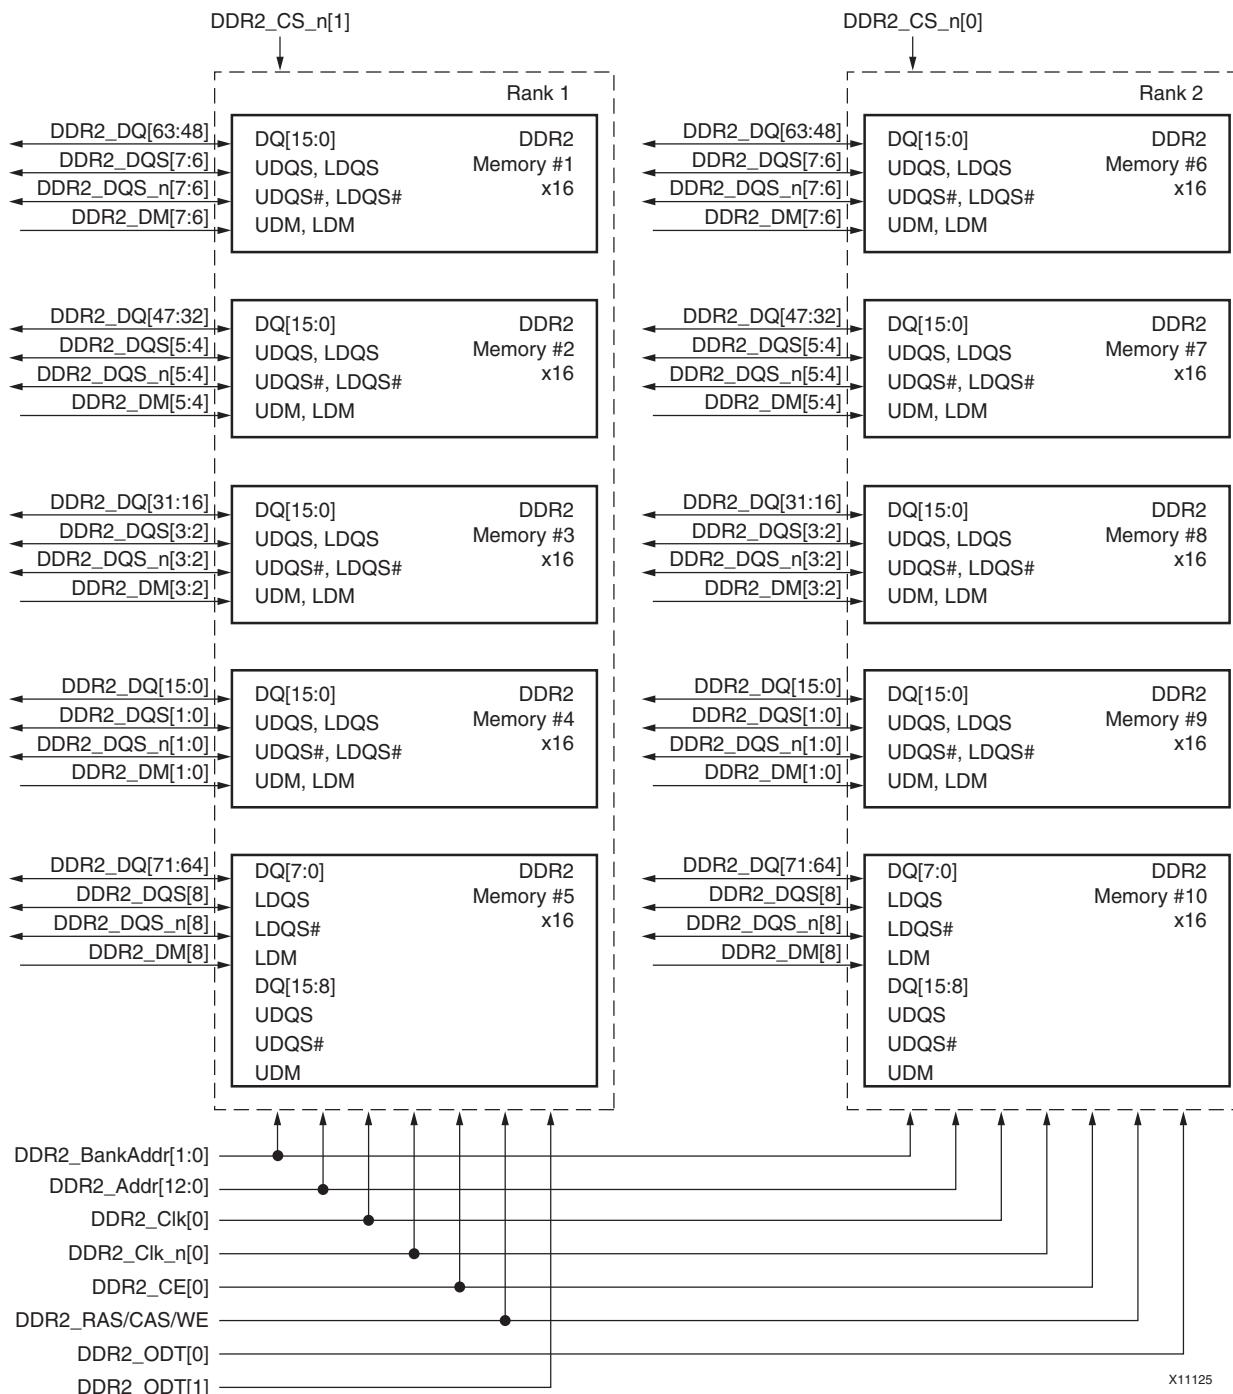

Figure 9: Example DDR2 Memory Connections
Figure 9 illustrates an example of connecting memory to a DDR2 MPMC design.
The example in Figure 9 has the following specified parameters:
- Within a particular rank, the signals DDR2\_CS\_n and DDR2\_ODT are connected to each memory in the rank. Some memory manufactures have specific recommendations for how these signals should be connected. For example, when using a dual rank DIMM, the recommendation might be to assert DDR2\_ODT on the same rank that DDR2\_CS\_n is asserted (as shown in Figure 9). Other recommendations might be to assert DDR2\_ODT on to opposite rank that the DDR2\_CS\_n is asserted, which can be achieved by swapping DDR2\_ODT[0] and DDR2\_ODT[1].